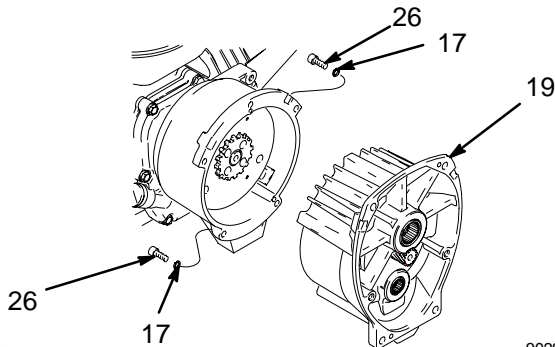
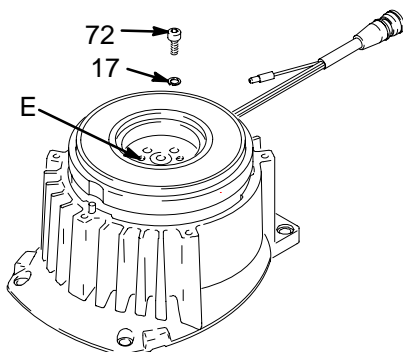
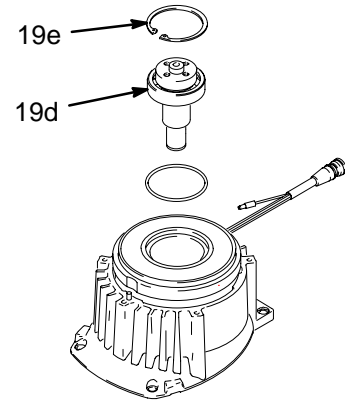

Fig. 6 9029A
Fig. 7 9030A
Fig. 8 9031A
3. Fig. 6. Remove five screws (26) and lockwashers (17) and pinion assembly (19).
4. Fig. 7. Place pinion assembly (19) on bench with rotor side up.
5. Remove four screws (72) and lockwashers (17). Install two screws in threaded holes (E) in rotor. Alternately tighten screws until rotor comes off.
6. Fig. 8. Remove retaining ring (19e).
5. Install four screws (16) and lockwashers (17) with torque of 125 in-lb.
6. Fig. 8. Tap pinion shaft (19d) in with plastic mallet.
7. Install retaining ring (19e) with beveled side facing field (Y).
8. Fig. 7. Place pinion assembly on bench with rotor side up.
9. Apply locktite to screws. Install four screws (16) and lockwashers (17). Alternately torque screws to 125 in-lb until rotor is secure. Use threaded holes to hold rotor.
10. Fig. 6. Install pinion assembly (19) with five screws (10) and lockwashers (9).